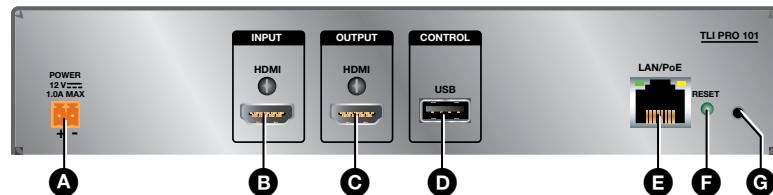
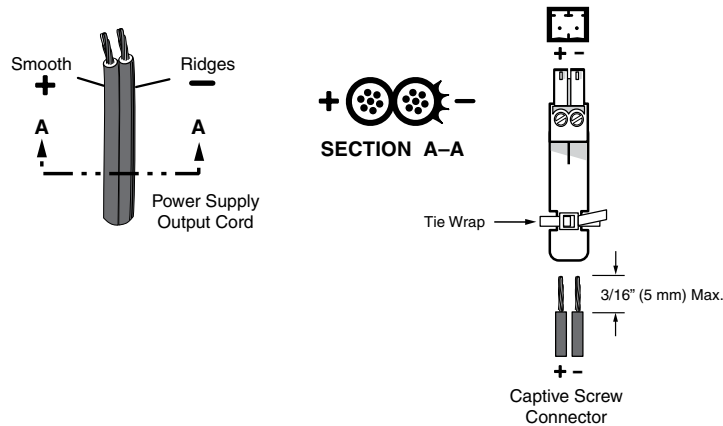

Figure 2. TLI Pro 101 Rear Panel
Figure 3. Wiring the Power Connector
- ☐ Connect the HDMI output from the TLI Pro 101 (figure 2, **C** on page 5) to the third-party touchpanel.
- A Power** (see figure 2, A, on page 5)— Connect the 2-pole, 3.5 mm captive screw connector from the provided 12 VDC power supply to the power supply socket on the rear panel. Figure 3 shows how to wire the connector. Ensure the connections have the correct polarity.
- B HDMI Input** (see figure 2 on page 5) — Plug the cable from the input source device into this female HDMI type A connector. Secure the HDMI connector to the TLI Pro 101 with the provided LockIt HDMI lacing bracket (see “LockIt HDMI Lacing Bracket Installation”, below).
- D USB Connector** (see figure 2 on page 5) — Supports High-speed USB 2.0 control. Plug a USB cable from the third-party touchpanel into this female type B connector.
- E Network and Power over Ethernet Connector** (see figure 2 on page 5) — Connect the interface to the LAN using a twisted pair cable, terminated with an RJ-45 connector. Use a straight-through Ethernet cable to connect the panel to a switch or router. Use a crossover cable to connect the panel directly to a computer.